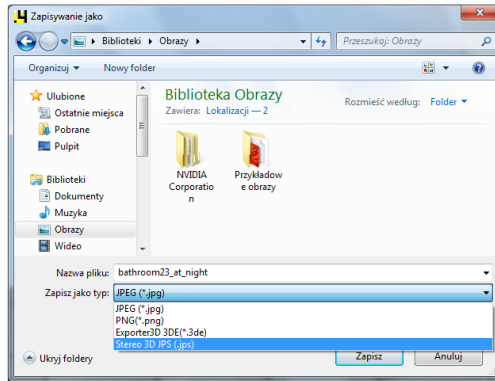

Fig. 308 – saving a file of an exported scene in visualization
- enter the name of a created file, choose its format and indicate the destination location in the **Saving as** dialog box (Fig. 308);